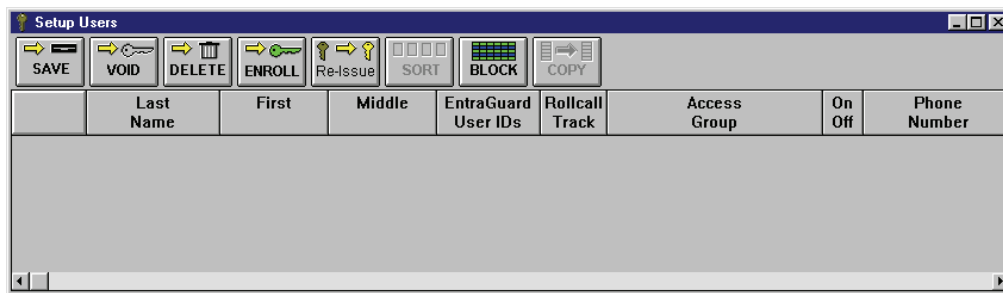

Figure 10-12: Setup Users Spreadsheet Window - EntraGuard User IDs Only
1. To enroll User IDs, click on the Setup ⇒ Users pull-down menu or click on the  tool bar button. These two icons  are added to the tool bar and the Setup Users spreadsheet window appears (see Figure 10-12 on page 13 of this section). If the setup users spreadsheet window is not visible, click on the  tool bar button.